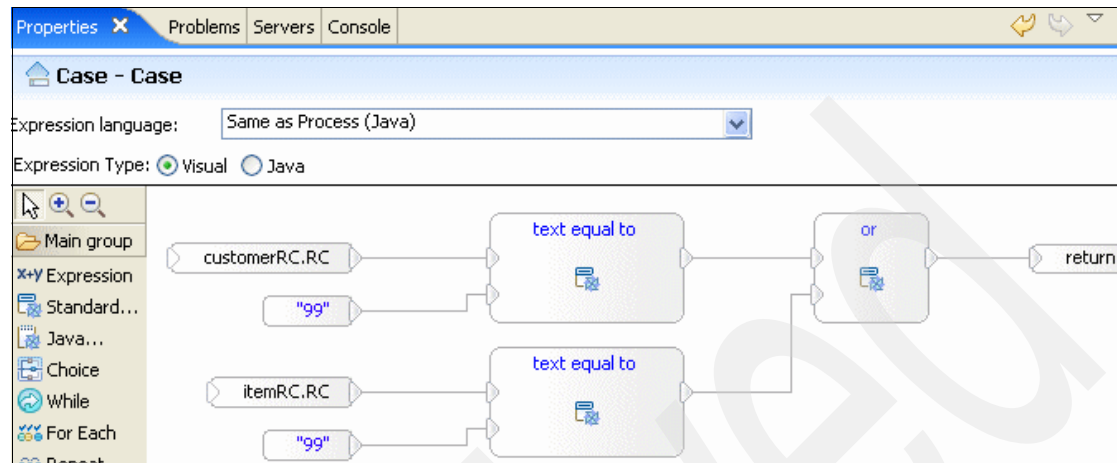

Figure 3-30 Case element design
12. Wire each of these expressions to the second input of the **text equal to** snippets to complete the Case element design, as shown in Figure 3-30.